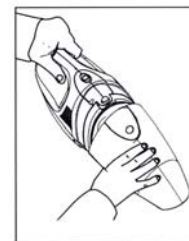

Fig. 11
2. To remove the dust cup container, press down on the dust cup release button and pull off the dust cup container. (Fig. 11)